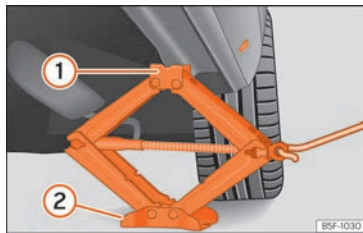

Fig. 198 Crossbar: mounting the jack on the vehicle.
- Turn the jack crank handle, located below the strut support point, to raise it until the tab **1** >>> Fig. 198 is below the housing that is provided.